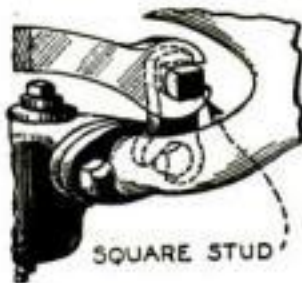

Fig. 2. Wrench for awkward work
**C**LOSE quarters in which it is almost impossible to use any of the standard wrenches for removing bolts and nuts, are often encountered. For such contingencies it is useful to have a set of special wrenches. These can be made out of the ordinary wrenches simply by cutting them down, as shown in Fig. 2, and riveting in a short square stud solid enough to withstand the pull of another wrench. A set of these will shorten repair jobs and make unnecessary the use of chisels and punches to turn inaccessible nuts.